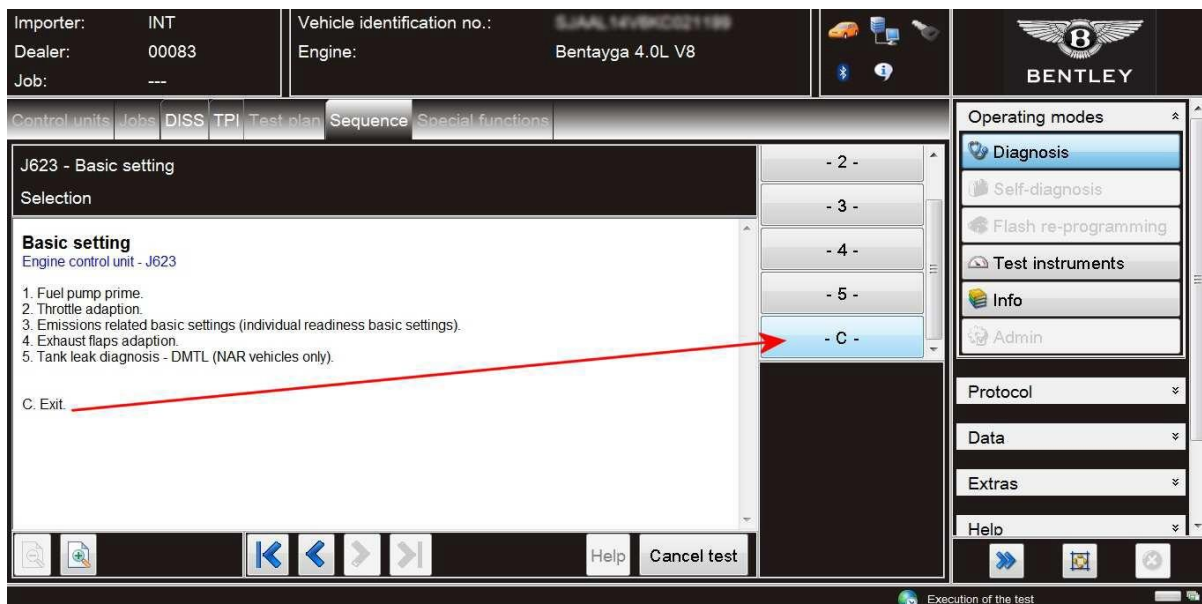

Figure 10
9) When successful and the throttle adaption is complete you will return to the Basic settings homescreen (Figure 10) - Select -C- to Exit